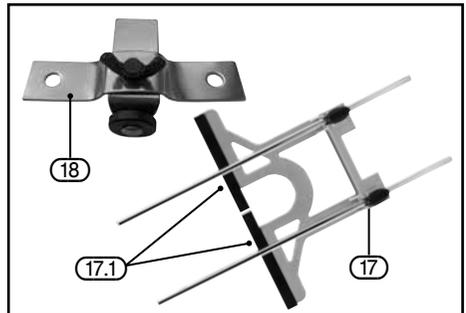

FIG.12
9.7 CURVED EDGE GUIDE (02520 only) – FIGS. 12 – 14